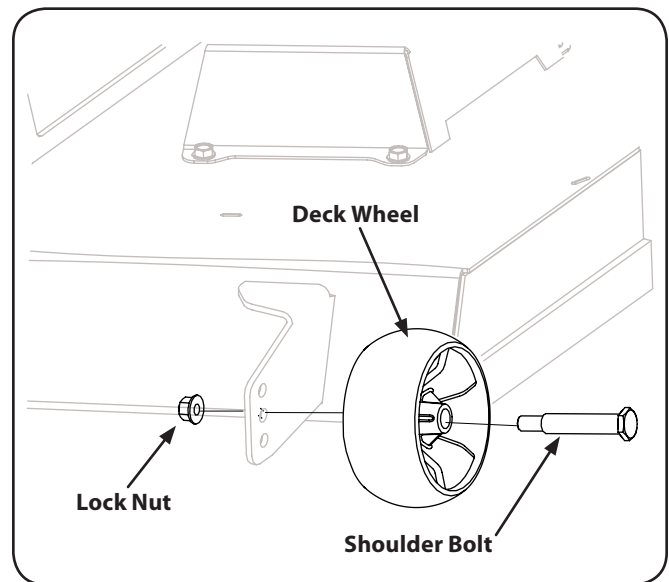

Figure 6-8
- b. Remove the front and rear deck wheels by removing the lock nuts and shoulder bolts which secure them to the deck. See Figure 6-8.